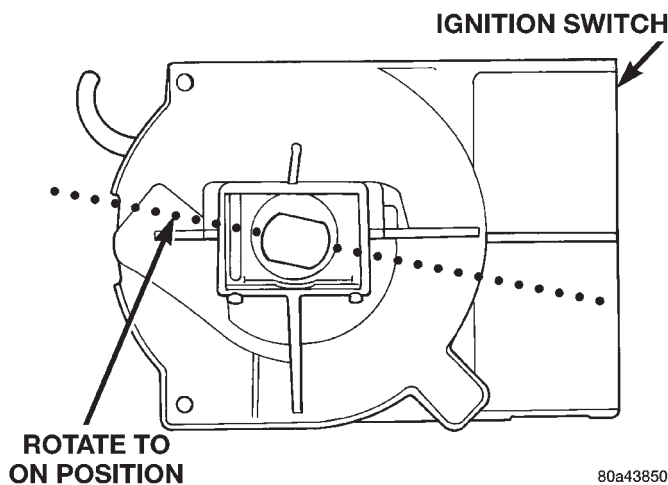

Fig. 42 Switch In ON Position
(1) Before installing ignition switch, rotate the slot in the switch to the ON position (Fig. 42).
(2) Connect two electrical connectors to rear of ignition switch. Make sure that locking tabs are fully seated into wiring connectors.
(3) Position switch to column and install tamper proof screw. Tighten screw to 3 N·m (26 in. lbs.).
(4) Install steering column lower cover.